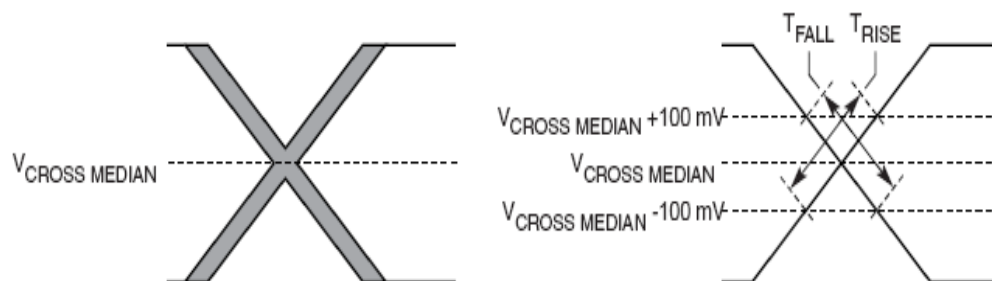

Figure 41. Single-ended measurement points for rise and fall time matching
6. Matching applies to the rising edge for SDn_REF_CLK and falling edge rate for $\overline{\text{SDn_REF_CLK}}$. It is measured using a 200 mV window centered on the median cross point where SDn_REF_CLK rising meets $\overline{\text{SDn_REF_CLK}}$ falling. The median cross point is used to calculate the voltage thresholds that the oscilloscope uses for the edge rate calculations. The rise edge rate of SDn_REF_CLK should be compared to the fall edge rate of $\overline{\text{SDn_REF_CLK}}$, the maximum allowed difference should not exceed 20% of the slowest edge rate. See Figure 41.